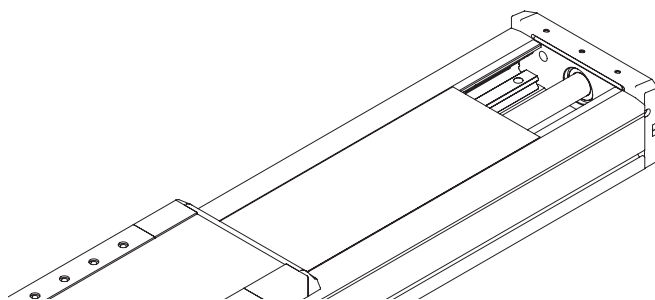
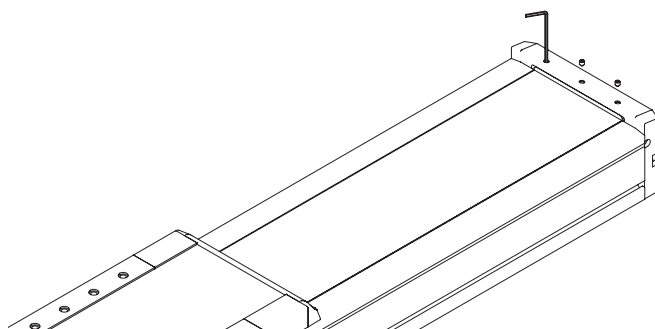

Fig. 7.16 Mounting the cover strip under the cover strip clamp
Fig. 7.17 Removing/mounting the cover strip clamp
- ▶ Undo the clamping screw of the cover strip clamp at both ends of the axis as shown in Fig. 7.17.
- ▶ Push the ends of the cover strip under the cover strip clamp on both sides. Make sure that the cover strip is aligned centrally with the axis profile and that it is in contact with the magnetic strips across the entire length. Hand-tighten the clamping screws of the cover strip clamp (see Fig. 7.16 and Fig. 7.17).